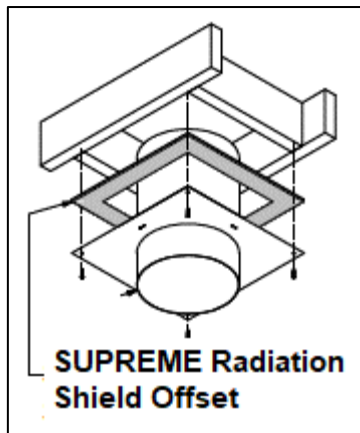

Figure 2-8: SUPREME Radiation Shield Offset
The SUPREME Radiation Shield Offset is a standard component for the Astra 32 fireplace (Figure 2-8). Prior to installing the chimney manufacturer's radiation shield, the SUPREME Radiation Shield Offset is fastened below the chimney opening within the chase, with the flanges along the component providing a $\frac{1}{2}$ " offset.
2. For an installation with the chimney running through the ceiling, install the SUPREME Radiation Shield Offset below the chimney opening prior to installing the radiation shield (refer to Figures 2-8 and 3-7).